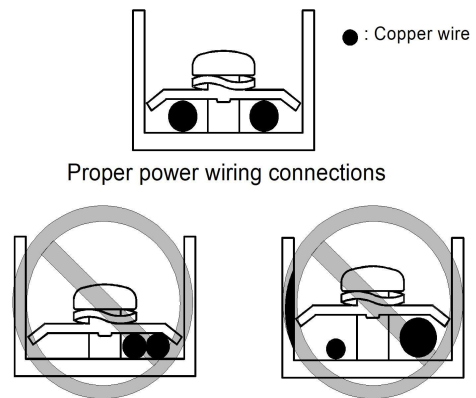

Figure 6-13
- Do not connect two power cords with different diameters to the same power supply terminal (may cause overheating of wires due to loose wiring) (See Figure 6.13)